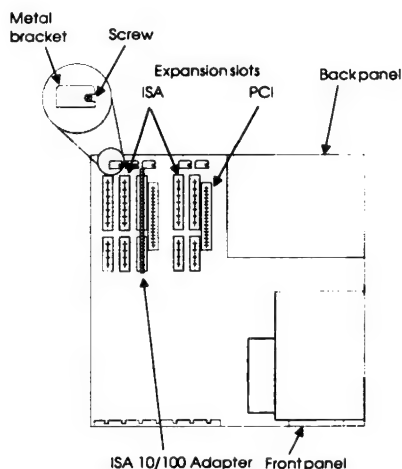

Figure 4. PC Top View
3. Remove the PC top cover to expose the inside of the PC. See figure 4.
4. Choose one of the free ISA (AT) or EISA expansion slots.